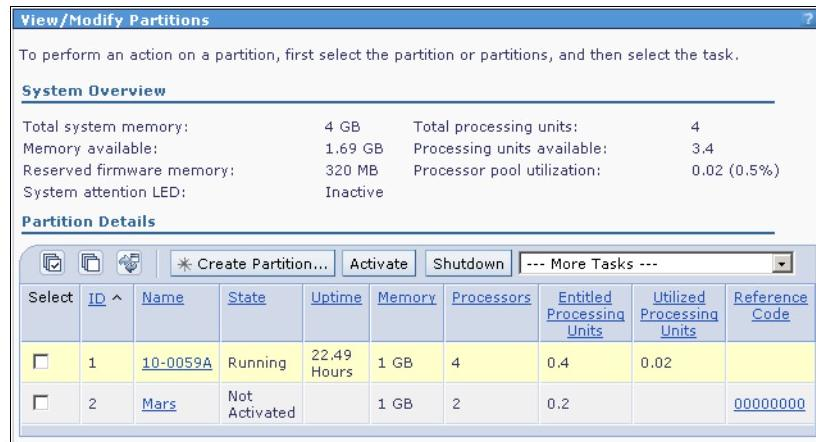

Figure 6-26 Newly created AIX/Linux partition
15. The new partition will be listed under View/Modify Partitions, as shown in Figure 6-26.